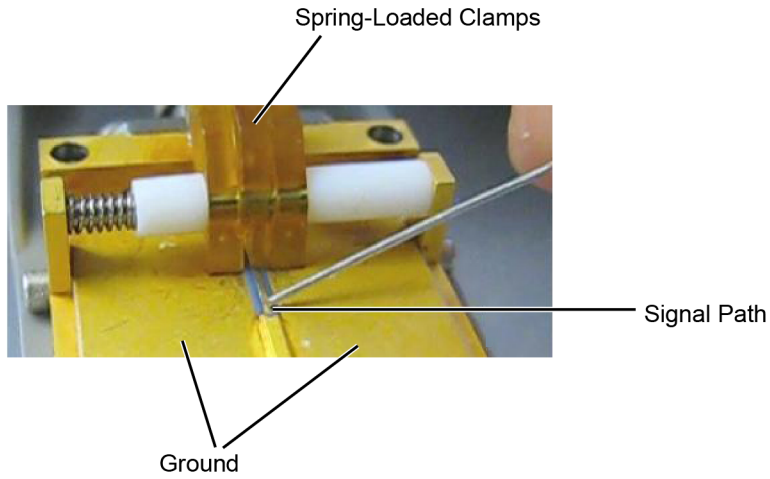

Figure 81 Closeup of Fixture's Signal Path, Ground, and Clamps
- h While pressing down on the N5443A fixture's spring-loaded clamps, insert the probe wires beneath the clamps. The N5443A's clamps, ground, and signal path are identified in Figure 81.